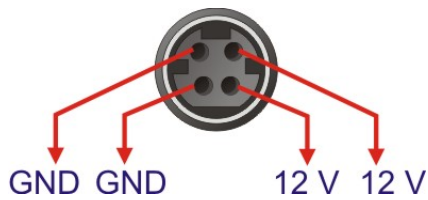

Figure 3-31: 4-pin Power Mini-DIN Connection
- CN Pinouts:** See **Figure 3-31**